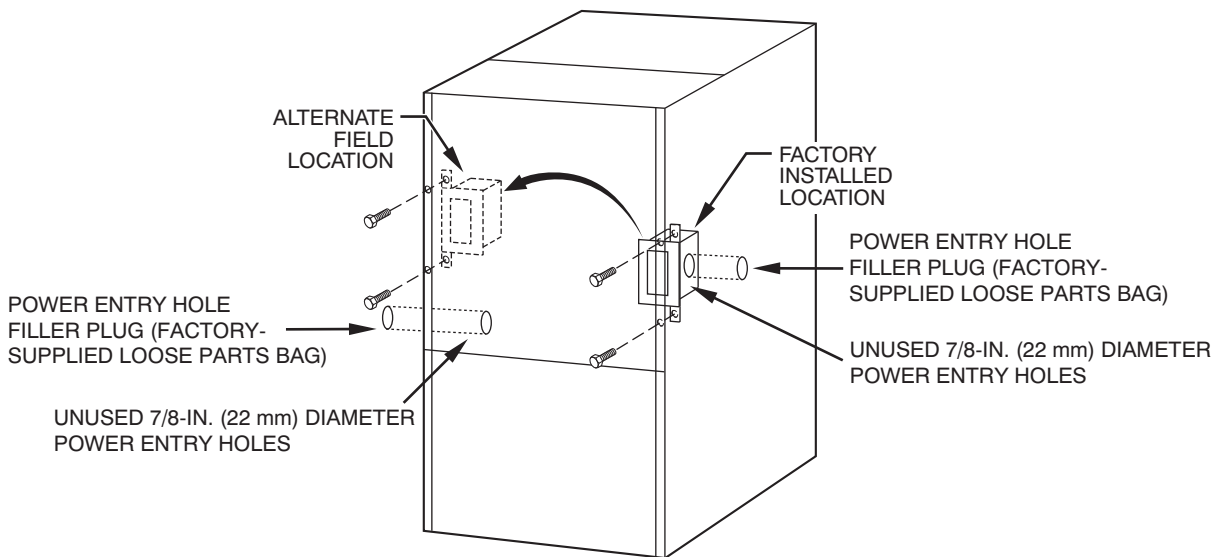

Fig. 35 - Relocating J-Box
1. Remove 2 screws holding auxiliary J-box. (See Fig. 35.)
3. Install electrical entry hole filler plugs (factory-supplied loose parts Bag) in unused power entry holes. (See Fig. 35.)